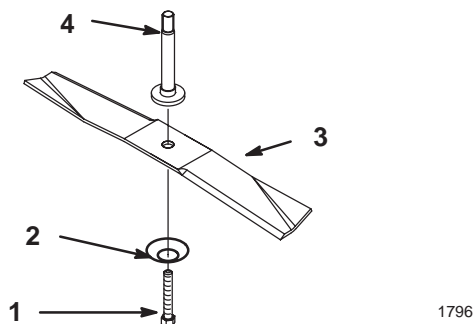

Figure 25
3. Remove the bolt, curved washer, and blade (Fig. 25). A block of wood may be wedged between the blade and the mower to lock the blade when you are removing the bolt.